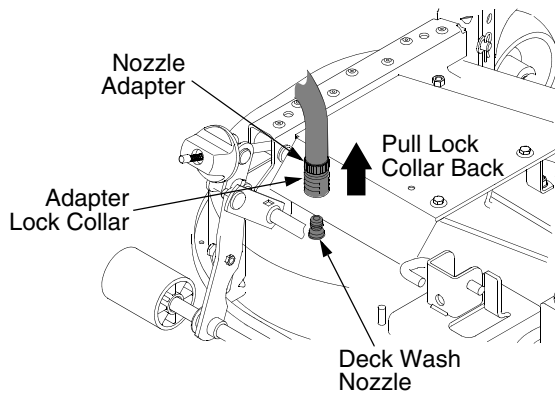

Figure 27
3. Pull back the lock collar of the nozzle adapter and push the adapter onto one of the deck wash nozzles at either end of the mower deck. Release the lock collar to lock the adapter on the nozzle. See Figure 27.